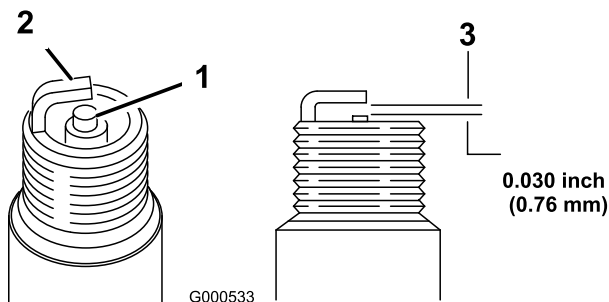

Figure 24
1. Look at the center of the spark plug (Figure 24).
2. Check the gap between the center and side electrodes (Figure 24) and bend the side electrode if the gap is not correct.